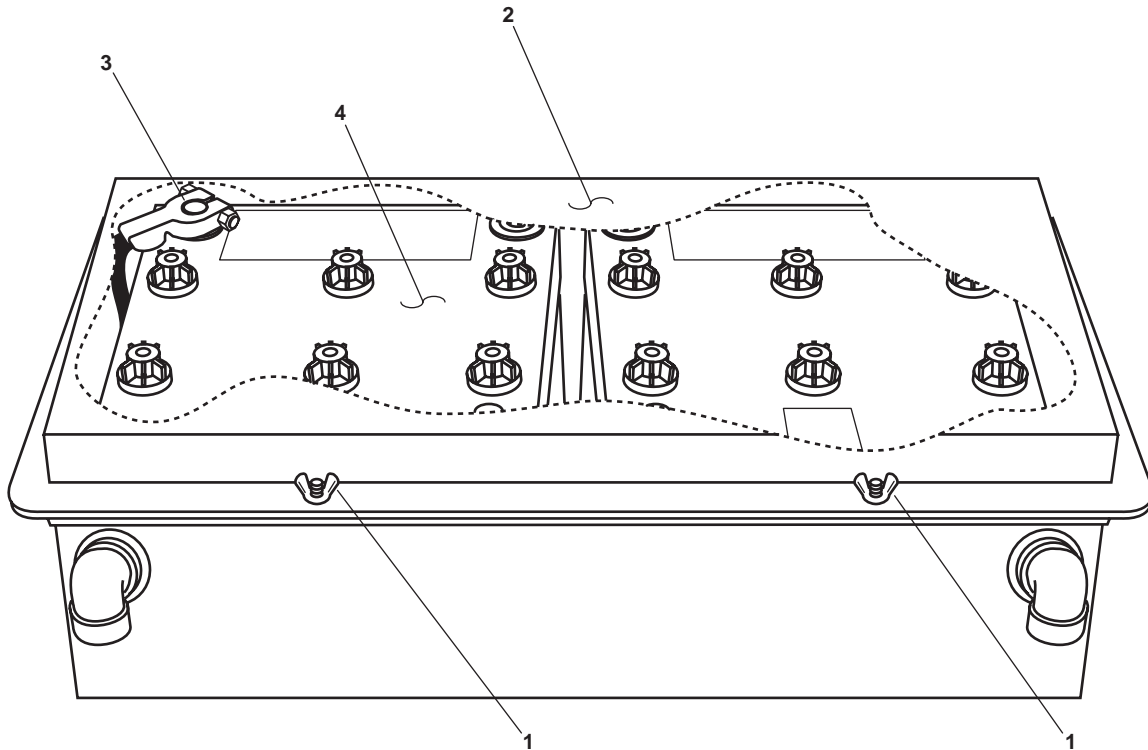

Figure 5. ROWPU Battery
2. Remove the six wingnuts (figure 5, item 1) that secure the ROWPU battery box cover (figure 5, item 2).
3. Remove the ROWPU battery box cover (figure 5, item 2).
4. Remove the negative battery cable (figure 5, item 3) from the ROWPU battery (figure 5, item 4).
3. Install the negative battery cable (figure 5, item 3) on the ROWPU battery (figure 5, item 4).
4. Install the ROWPU battery box cover (figure 5, item 2), and secure it with the six wingnuts (figure 5, item 1).